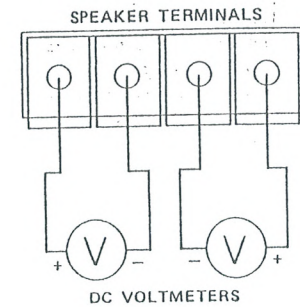

Fig. 18
- A. Connect one DC voltmeter to the left and one to the right channel of the SPEAKER terminals. (See Fig. 18)